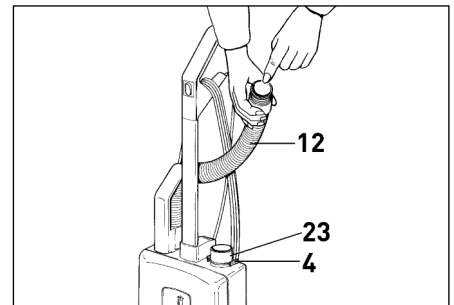

Figure 16
Clogs in the Attachment Hose - Figure 16
Remove attachment hose (12) from vacuum cleaner (see figure 16) and remove front cover (7). Clean out connecting tube (29) and/or entrance to bag (28).